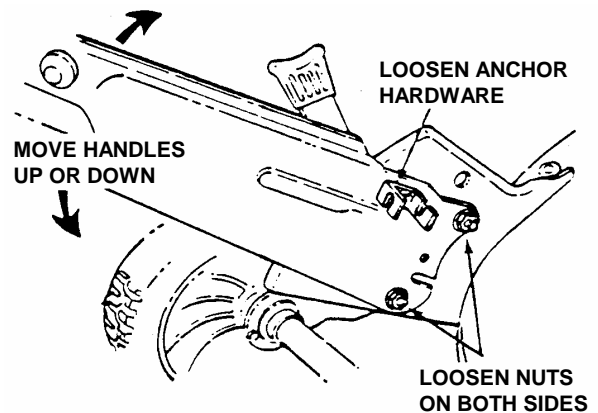

FIGURE 4
STEP 4: To adjust handle height loosen bolts on both lower handle brackets. See Figure 4. Move handles up or down for desired height. Tighten all bolts and nuts on all handles and brackets.